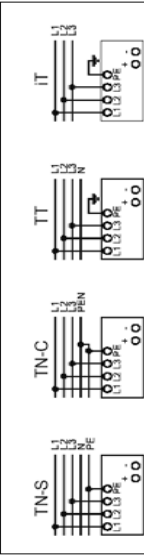

Figure 5
- 5.1. Input connection (Fig. 1, Fig. 5)**